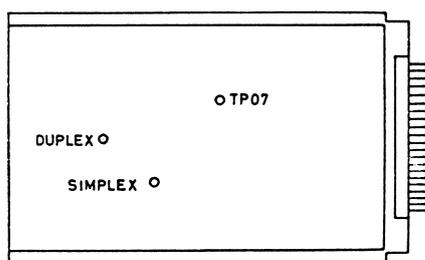

FIG. 8.1 SYNTHESIZER ALIGNMENT HOLES
- b. remove the AUX channel oscillator board, if installed, to give access to the synthesizer board below, for checking and aligning. The synthesizer board is completely screened with a metal box which divides the circuit into four individually screened compartments interconnected via feed-through II filters. The top cover of the box may be unscrewed but is fitted with three holes as shown in Fig. 8.1 to permit adjustment (on receive) of the crystals and to allow to VCO to be checked on TP07 without the cover being removed.
- g. The free running frequencies can easily be checked by connecting the test point TP 7 to ground. TP 7 can be located through the hole in the top-cover shown in Fig. 8.1. On a simplex channel the frequency on the counter should be 168.650 MHz ± 100 KHz and on a duplex channel the frequency shall be 173.250 MHz ± 100 KHz. If one of the frequencies is out of range the top-cover has to be removed and the VCO trimmers readjusted as described in "h".